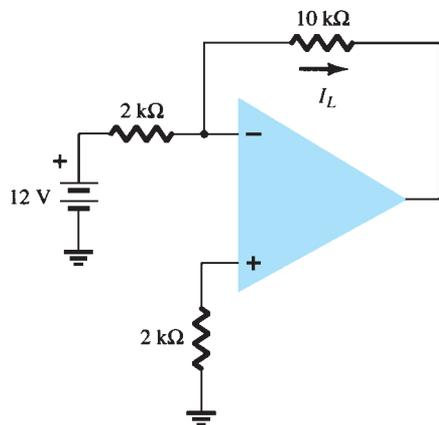

FIG. 11.53
11. For the circuit of Fig. 11.53, calculate I_L .